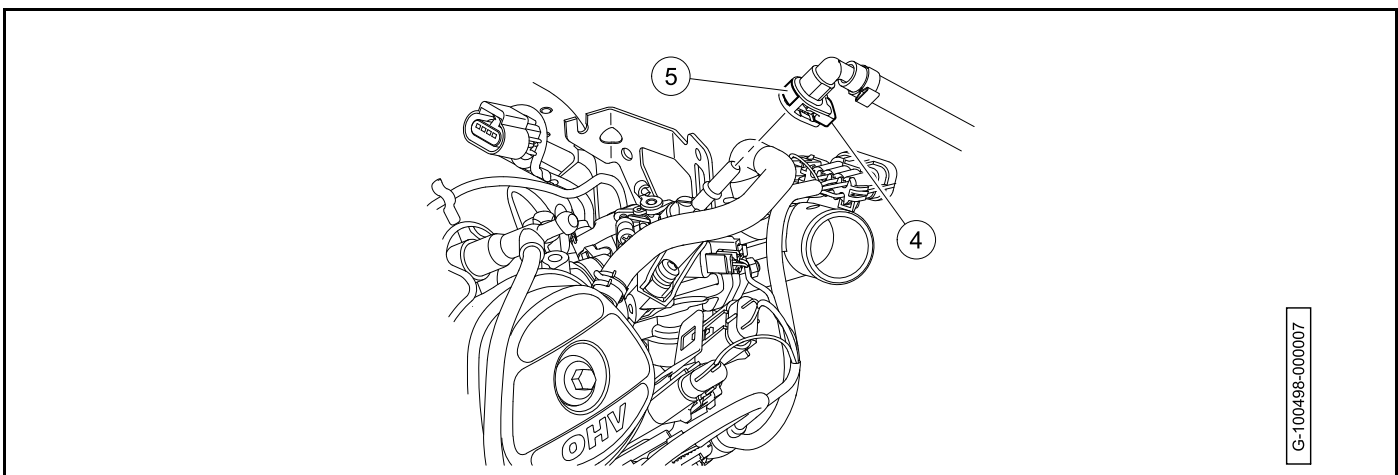

Figure 21-13
- 5.2. Pull out the locking clip (4) (**Figure 21-13, Page 21-14**).